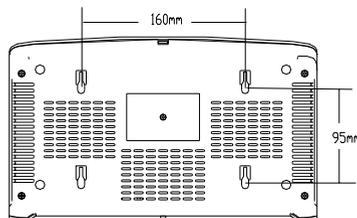

Figure 2-1 Chassis bottom
Step 1: Install four pan-head screws on a wall or other flat vertical surface (with reference to the distance between the four brackets as shown in Figure 2-1), and ensure that each screw sticks out 6 mm (0.24 in.) on the wall.